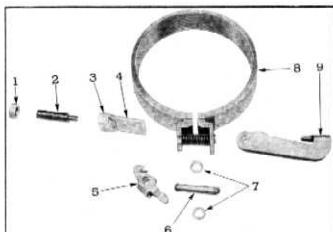

Fig. 118—Layout—Reverse Brake Band
- Figures 118 and 119 show layout of brake band parts.